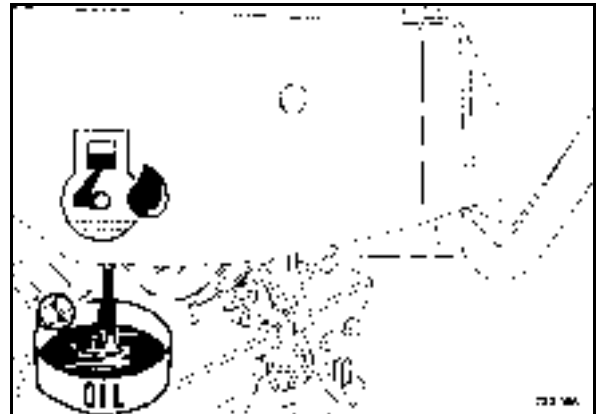

Fig. 98
- Unscrew the drain plug (Fig. 98) and catch running out oil.